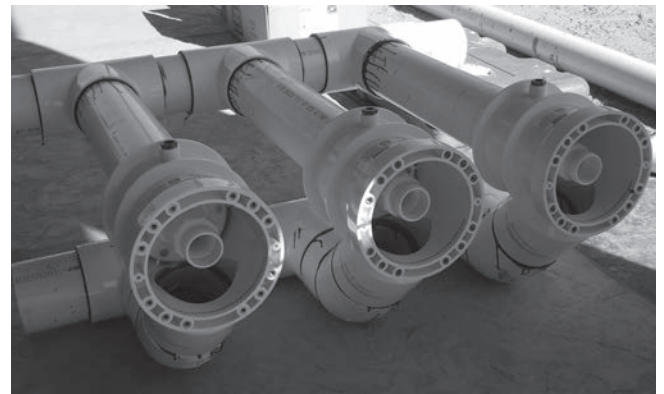

Figure 8
- A. Install plumbing manifold (for two and three jet systems) or approximately 12" of 4" SCH 40 pipe (for single jet systems) to both suction and discharge fittings on the jet housing(s). See Figure 8.
- B. Thread one (1) air regulator hose nipple into the top of each jet housing. Secure plastic air regulator hose (part #15) to the air regulator hose nipple(s) (part #14) using the hose clamp(s) (part #16).